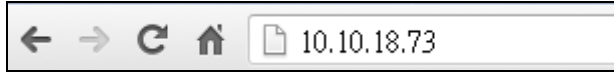

Figure 3-41: IEI iMAN Web Address
Step 2: On the remote management console, open a web browser. Enter the managed system IP address in the web browser (**Figure 3-41**).